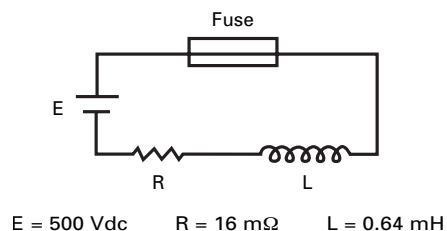

Figure I5. Calculation example circuit.
$R = 16 \text{ m}\Omega$  circuit resistance in Figure I5
0.64 mH = circuit inductance from Figure I5
16 m $\Omega$  = circuit resistance from Figure I5